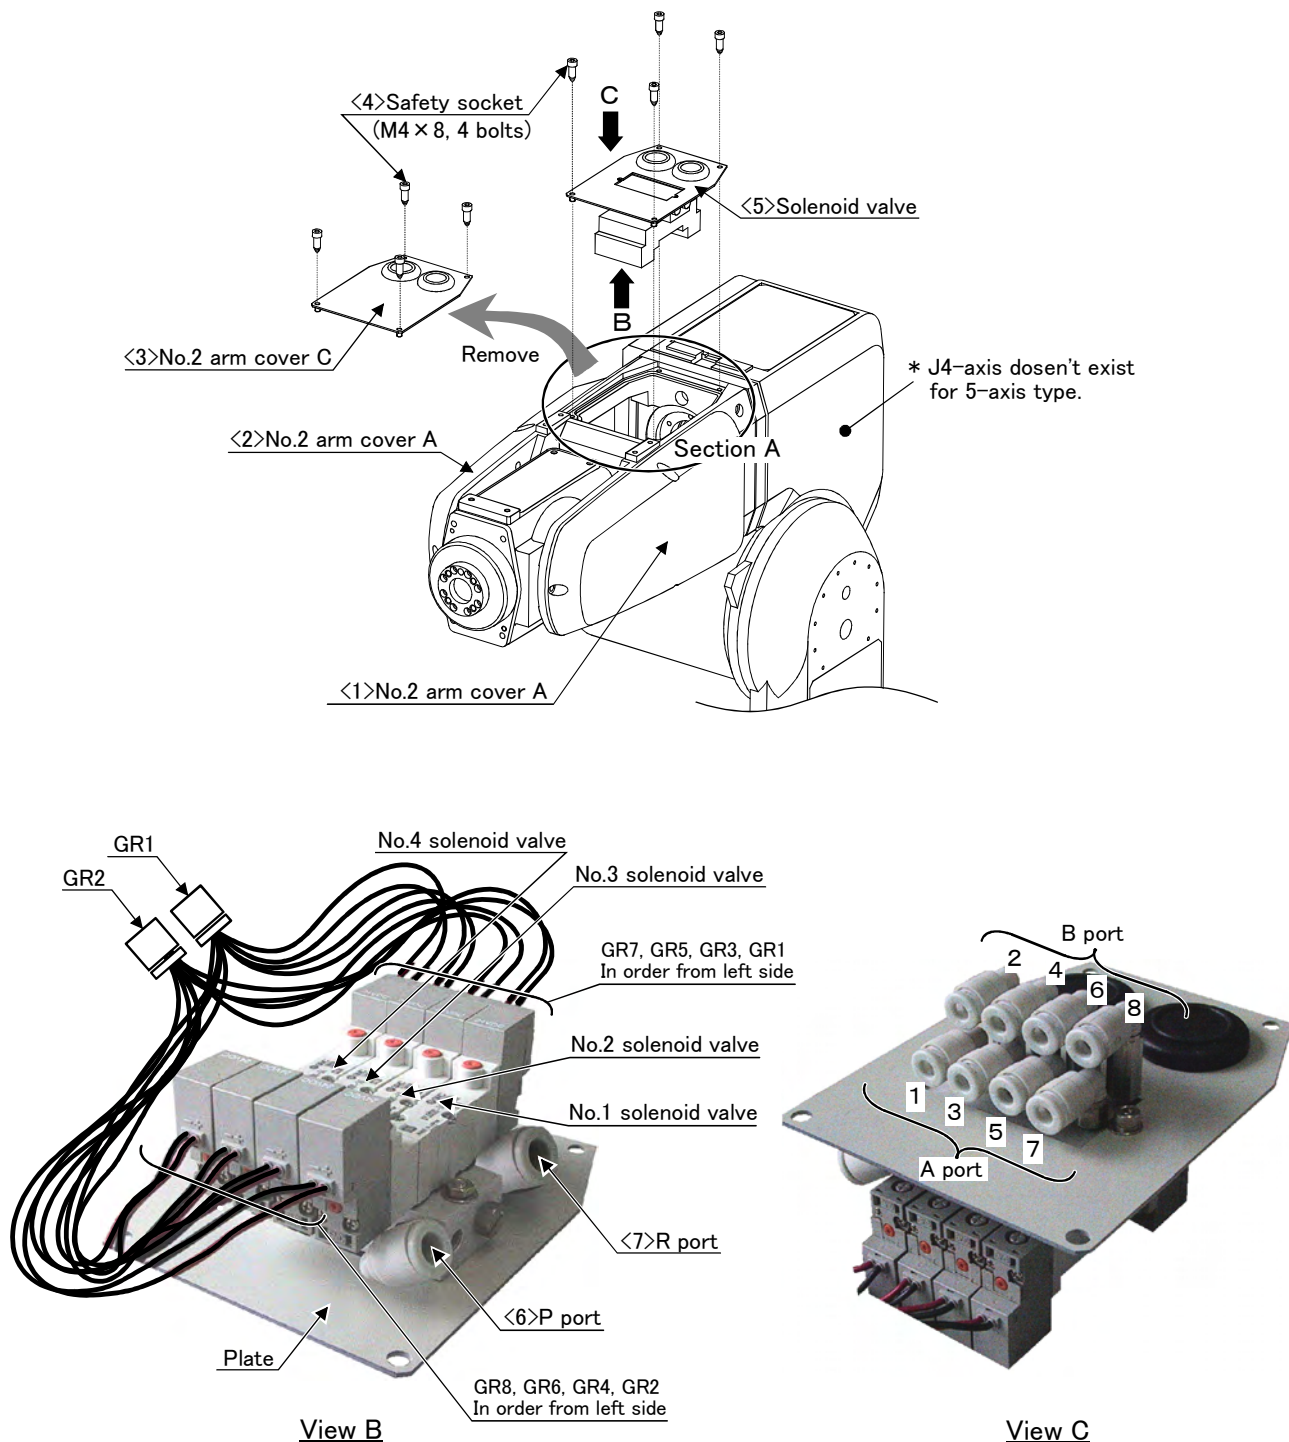
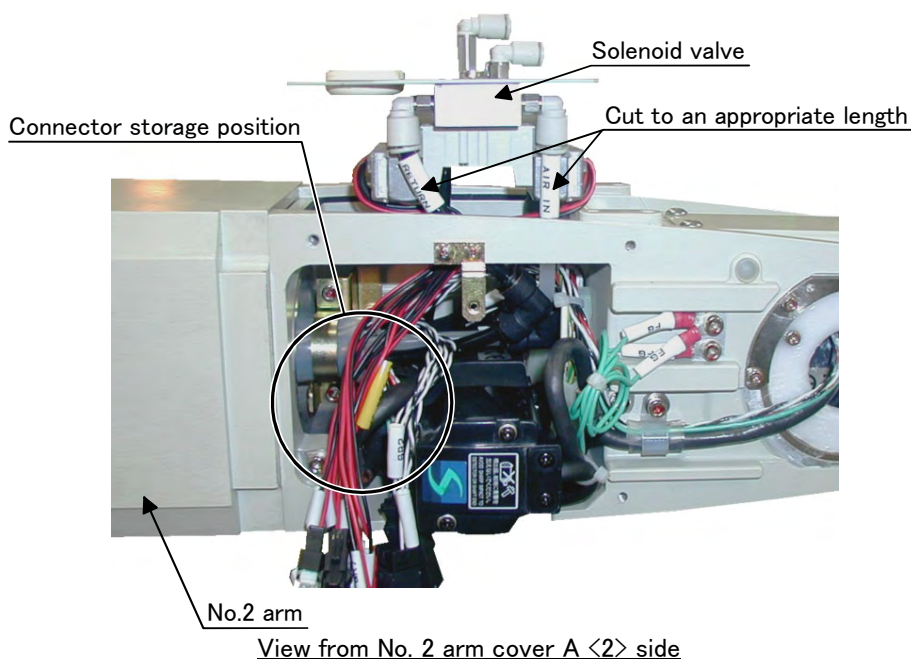
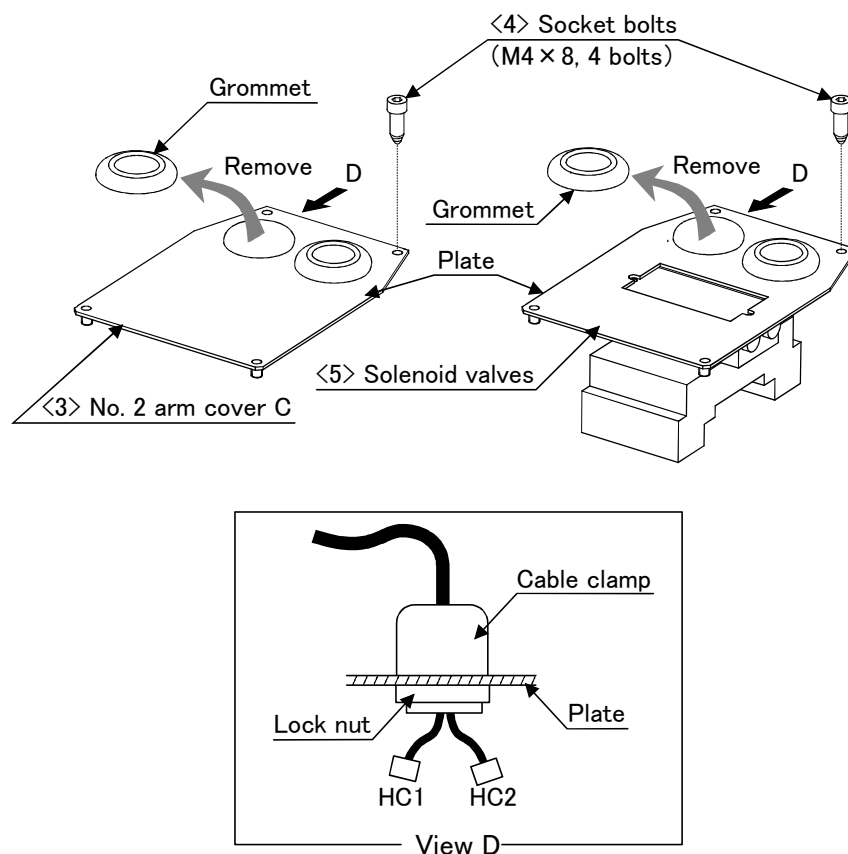

Fig.3-1 : Solenoid valve installation procedures
Fig.3-2 : Solenoid valve installation diagram details 1
Fig.3-4 : Installing the hand input cable
Fig. 3-1 and Fig. 3-2 shows the solenoid valve installation procedures and the solenoid valve connector connection procedures. The installation procedures are as follow. This work must be carried out with the controller power turned OFF.
- 3) If you are not using the spare line (ADD: stored in a coil) in section A shown in Fig. 3-1, remove it. The spare line is connected to a connector inside section A.
- 7) Connect the connectors of "GR1" and "GR2" stored in section A to the plugs of "GR1" and "GR2" coming out of the solenoid valves. Store the connectors near the location marked with \bigcirc shown in Fig. 3-2. Fig. 3-2 shows a view when stored.
The procedure for installing the hand input cable is as follows. Conduct work by referring to "Fig. 3-1 Solenoid valve installation procedures" on page 32 and "Fig. 3-4 Installing the hand input cable" on page 35 below.
- 7) Connect the connectors of "HC1" and "HC2" stored in section A shown in Fig. 3-1 to "HC1" and "HC2" of the hand input cable.
- 8) Mount the No. 2 arm cover C <3> or the solenoid valves <5> to section A shown in Fig. 3-1. When mounting, be careful not to damage the sponge sealing material attached to the opening of section A. If it is damaged, the protection performance may be lowered.
The procedure for installing the hand output cable is as follows. Conduct work by referring to “Fig. 3-1 Solenoid valve installation procedures” on page 32 and “Fig. 3-5Installing the hand output cable” on page 36 below. This work must be carried out with the controller power turned OFF.
- 7) Connect the connectors of “GR1” and “GR2” stored in section A shown in Fig. 3-1 to “GR1” and “GR2” of the hand output cable.